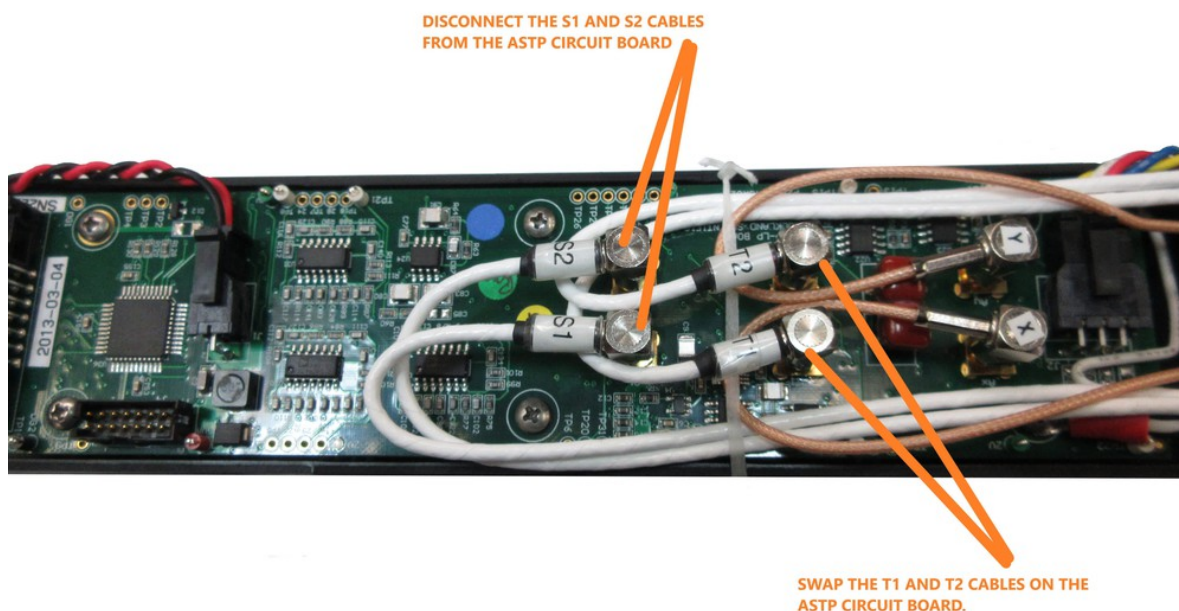

Figure 46: Modifying SMC connections on the ASTP board to identify the cause of noisy data.
- (ii) Open up the instrument and disconnect the shear probe's SMC connection to the ASTP board (Figure 46). Do a bench test. If the problem is resolved, then the SMB connector is likely damaged and the *SMC cable assembly may need to be replaced*.
- (ii) Open up the instrument and swap the two thermistor SMC connections to the ASTP board (Figure 46). Do a bench test. If the noise is now on the opposite channel, then the SMB connector is likely damaged and the *SMC cable assembly may need to be replaced*.